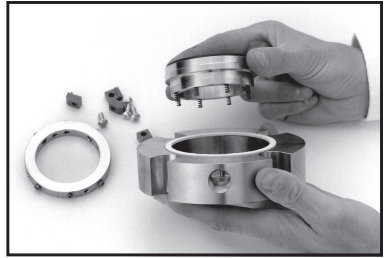

Figure 9
4.2.8 **Pull the stator** from the gland ring bore and remove and discard the springs. See Figure 9.